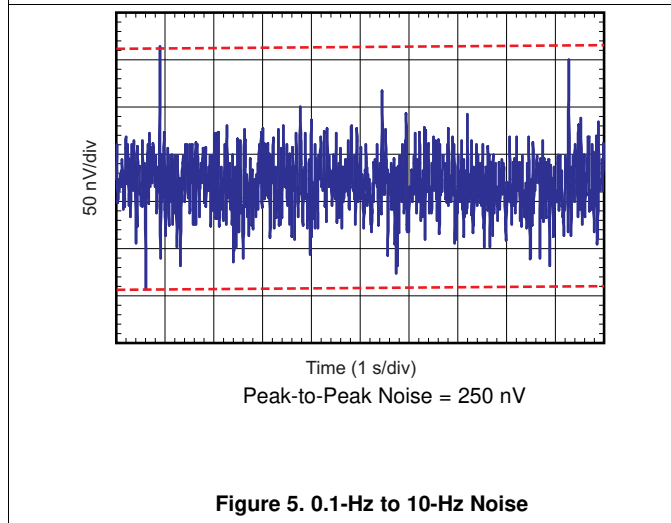

Figure 5. 0.1-Hz to 10-Hz Noise
0.1-Hz to 10-Hz Noise	<a href="#">Figure 5</a>